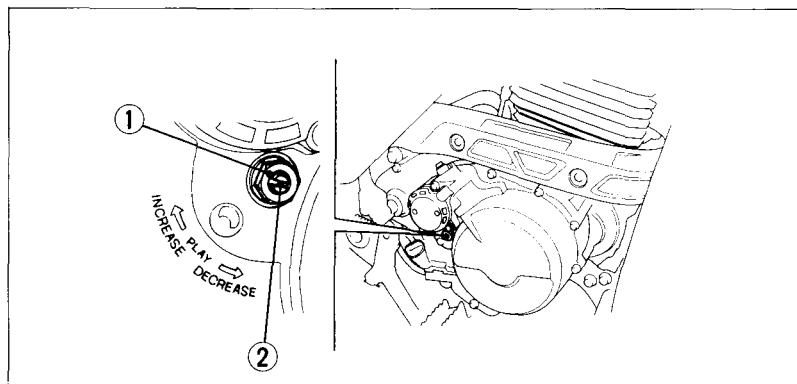

Fig. 4-16
2. Loosen the lock nut (Fig. 4-16), and turn the clutch adjuster (2) counterclockwise until you feel *slight resistance*.